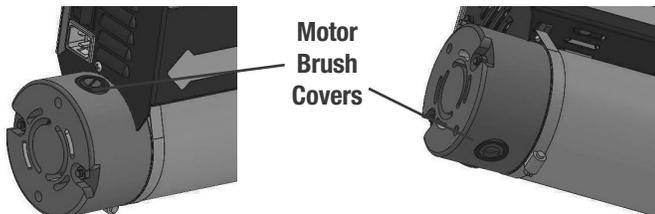

Figure 35: Brush Location on Motor
2. Unscrew brush-cover counter clockwise at the end of the motor with flathead screwdriver exposing brush (Fig.35)